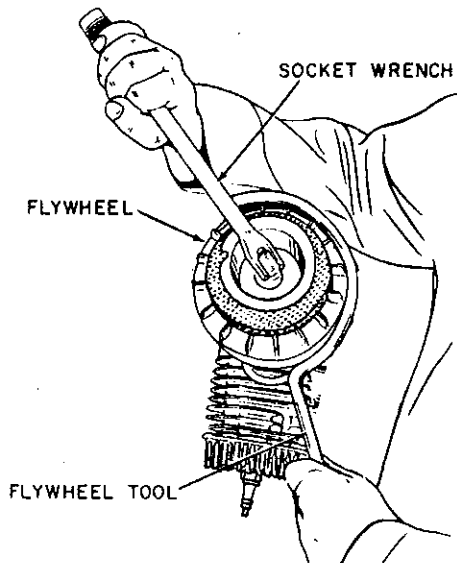

Figure 11
- A. Remove screws, engine shroud and rewind starter. Place a socket wrench and handle on flywheel nut and use flywheel tool part number 670217 to hold flywheel. Remove nut by turning in counter-clockwise direction. (See Figure 11.)